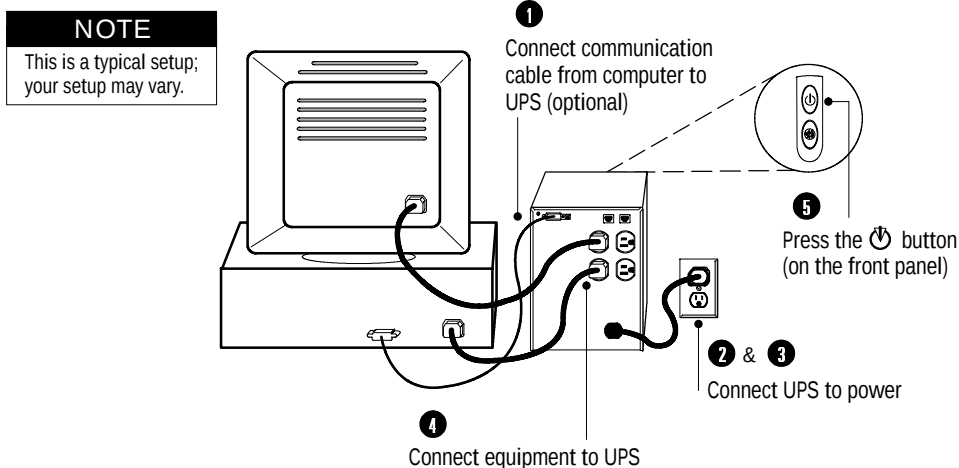

Figure 2. Typical UPS Installation (120V Model Shown)
The following steps explain how to install the UPS. Figure 2 shows a typical installation only. See “UPS Rear Panels” on page 6 for the rear panel of each model.
5. Start the UPS by pressing the button as shown in Figure 2. The indicator illuminates indicating that power is available from the UPS output receptacles.